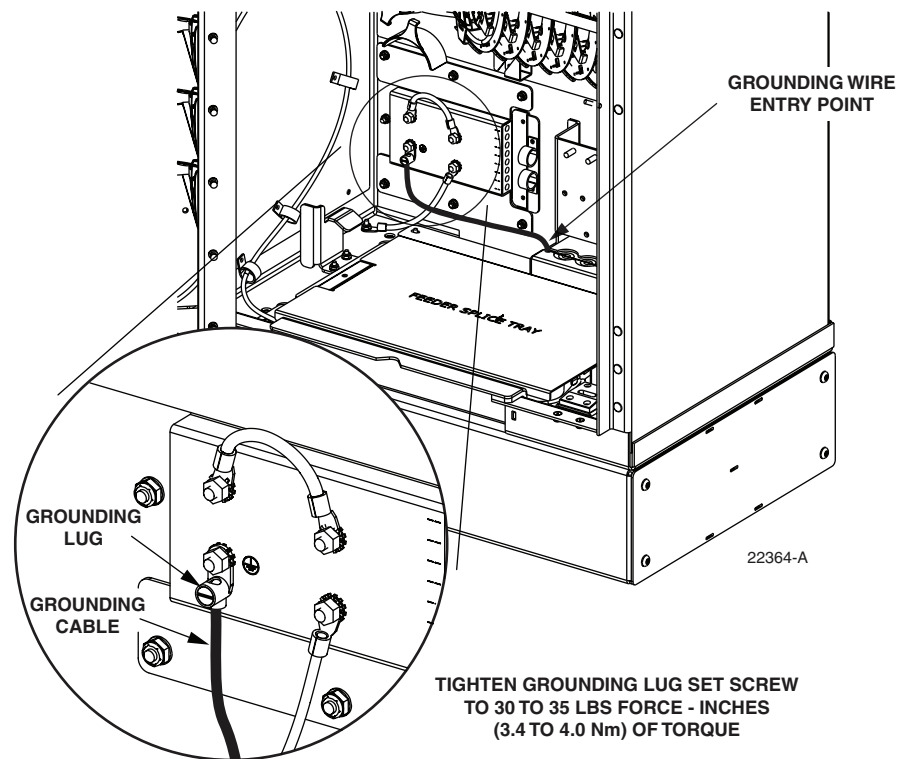

Figure 7. Grounding Wire Connection To Cabinet
2. Working from the bottom side of the cabinet, insert the grounding wire through the flexible membrane at the point indicated in Figure 7.